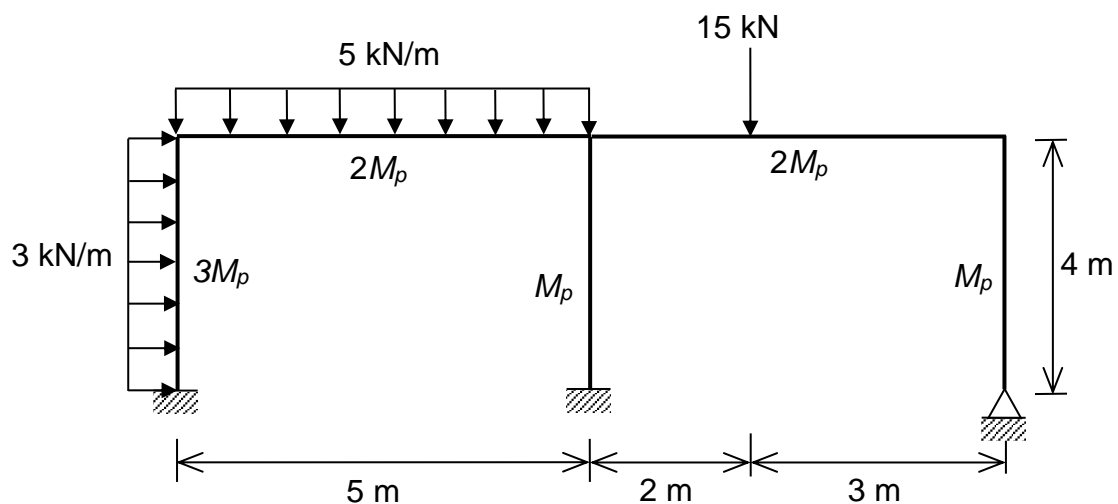

Figure 5/Rajah 5
5. **Figure 5** shows a rigid-jointed frame to carry the working loads. If the collapse load factor is to be 1.5, determine the required plastic moment capacity (M_p) for the frame. Consider all possible mechanisms.